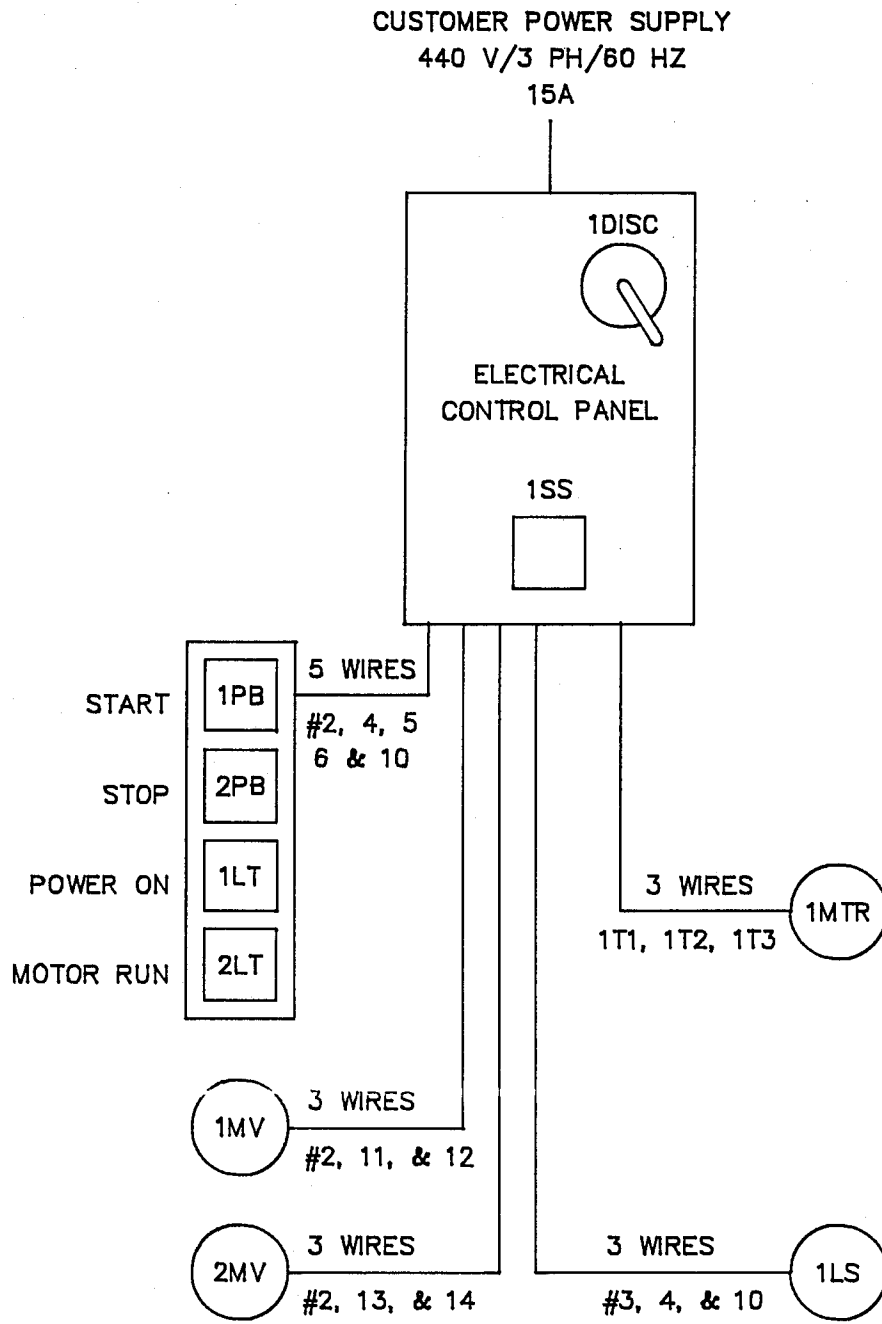

FIGURE 8-1
8.2.3 Installation and Connection of Electrical Controls - Refer to Fig. 8-1
See Fig. 8-1 for electrical connections indicated in the following steps 3 through 5 inclusive.